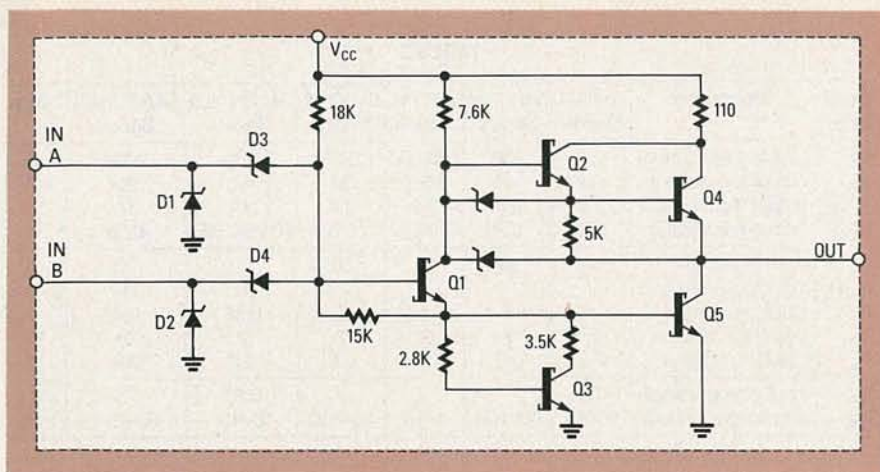

FIG. 3—ALL INPUTS of a low-power Schottky device have Schottky clamping diodes to control ringing.
The design of a low-power Schottky (LS) device varies somewhat from a traditional TTL design in that the input logic transistor does not have multiple emitters. Instead, Schottky barrier diodes are attached to the base of the input transistor, with each diode representing an input. A schematic of a typical low-power Schottky gate is shown in Fig. 3.
All inputs are provided with Schottky clamping diodes, as shown in Fig. 3. Those diodes conduct when the input signal to the device goes negative, which limits undershoot and helps to control ringing.
Looking at Fig. 3, we see that as the input voltage to input A approaches ground, increasing amounts of current flow through D3 until it reaches I_{IL} . Beyond that point, the input voltage starts swinging negative, as would be the case if the input signal suffered from ringing. That effectively places ground at a positive voltage and the logic input at a negative voltage, forcing diode D1 into forward conduction. The input voltage is now clamped at the forward voltage drop of D1, which effectively dampens any ringing that may be present on the input signal.
Referring back to Fig. 3, note that the base of pull-down output transistor Q5 is returned to ground through Q3 and a pair of resistors instead of through a simple resistor. That arrangement is called a squaring network because it squares up the transfer characteristics of the logic transitions by preventing Q1 from conducting until the input voltage rises high enough to allow Q1 to supply sufficient base current to Q5 for a snappy transition.